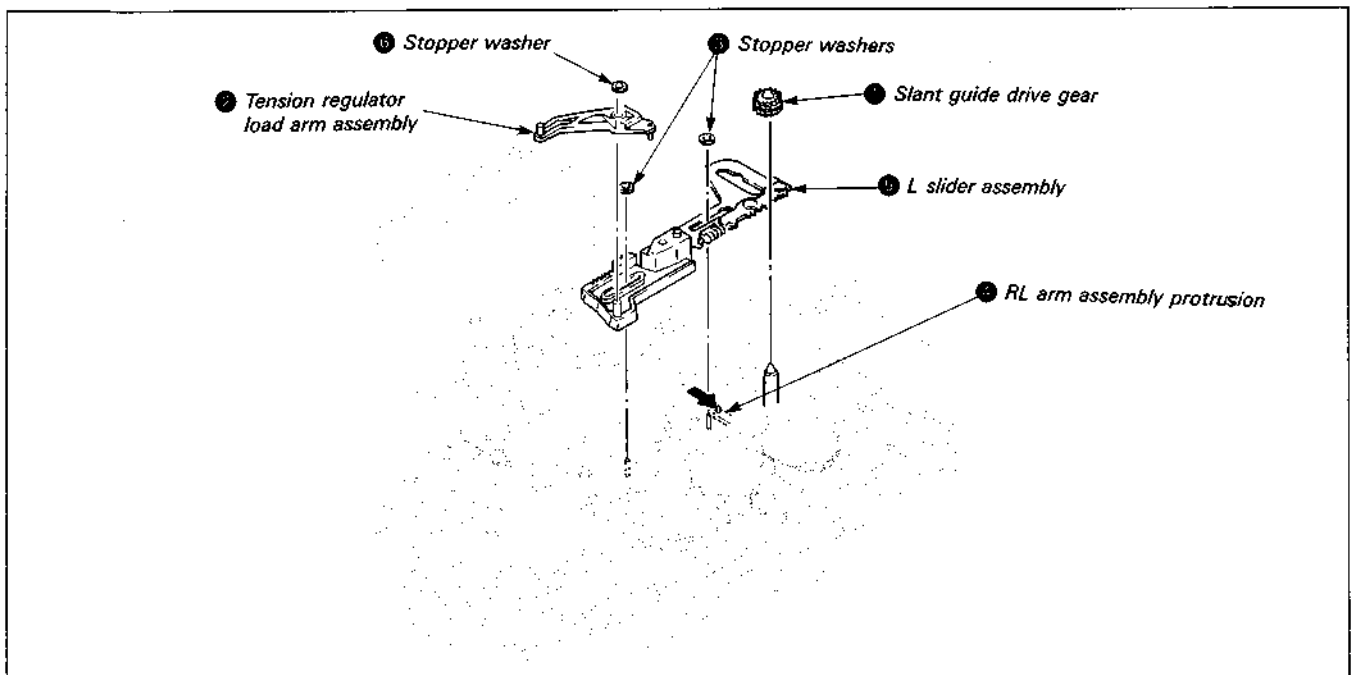

Fig. 7-30.
7-3-11. L Slider Assembly (See Fig. 7-30. ~ 32.)
- 6) Remove the tension regulator load arm assembly according to 7-3-11., 1. Removal, 8). (See Fig. 7-30.)